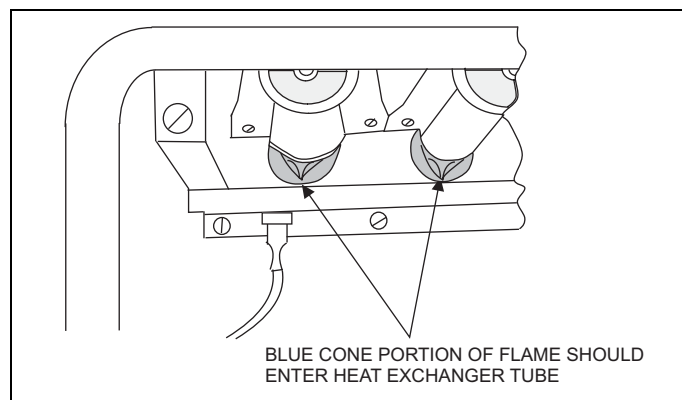

FIGURE 2: Burner Flame Drawing (Upflow Configuration Shown)
6. Examine the burner flames to make sure they are in good adjustment. Refer to the pictorial sketch shown in Figure 2 as a comparison to the actual flame.